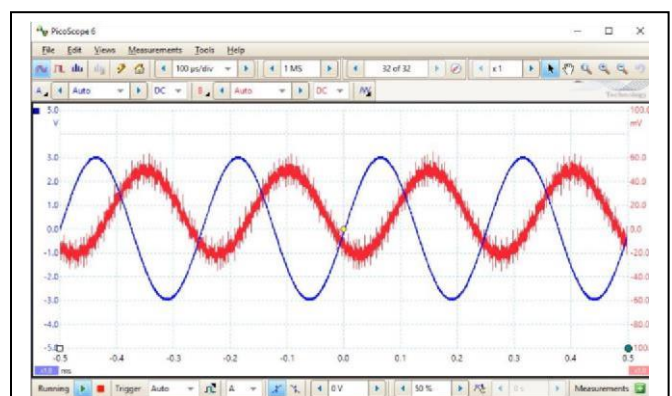

Fig 26 The output at 4 kHz is getting noisy.
- Comment below on the signal quality. Note that Figure 26 shows the results at 4 kHz. Given the noisy nature of the signal, it will be hard to